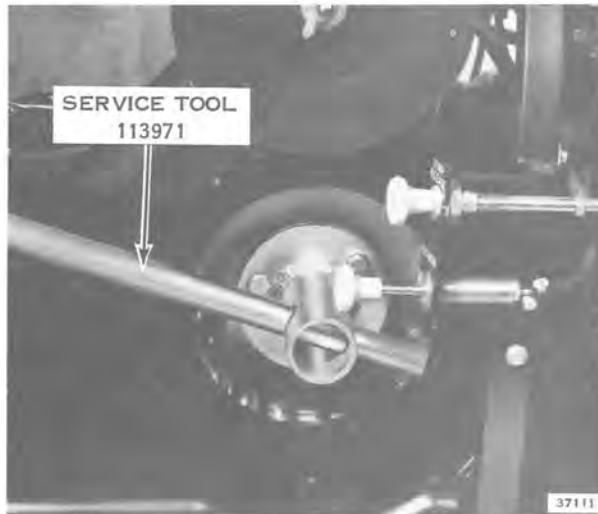

Figure 10-7
3. Attach Service Tool No. 113971 to flywheel with three bolts. See Figure 10-7.